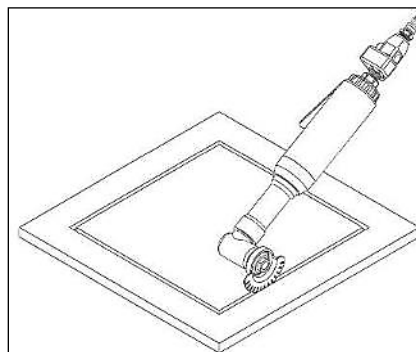

Figure 5: Tool and Gap Alignment
- 3.2.2. With the GFR-Disc/Blade in line with the gap and engaged in the gap filler (**Figure 5**), begin to remove the gap filler by moving the pneumatic saw and GFR-Disc/Blade along the gap at a slow, steady rate.